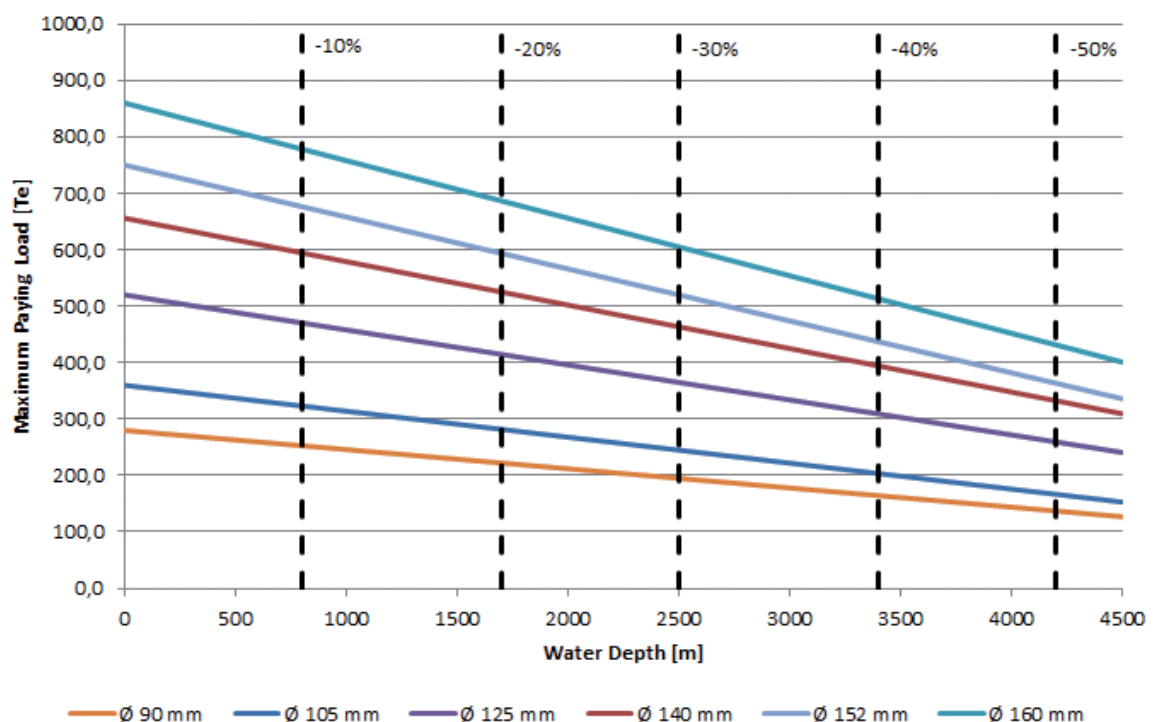

Fig 4 – Safe Working Loads (SWL) reduction depending on operative WD
Referring to typical offshore ropes **figure 4** clearly shows that also neglecting dynamic loads, applying a Safety Factor (SF) equal to 2.5, a 400 Te paying load could be deployed at 1500 m of WD only with a rope having a diameter higher than 105 mm, at 2500 m of WD with a rope bigger than 125 mm diameter. Considering then a frontier scenario, at least a 160 mm rope diameter should be used. In other words, it can be stated that, regardless of the rope diameter, every 800- 900 m of rope to be unwound to perform a